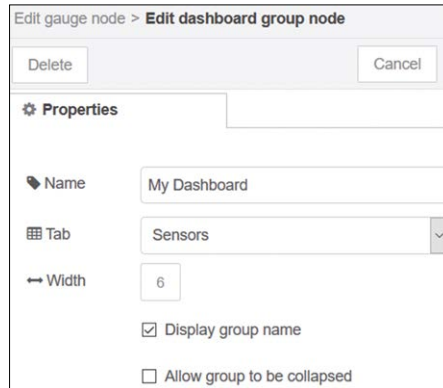

Figure 8.4 Edit the dashboard group name
- Click the **Group** field button to add and configure a dashboard. You should see the dashboard group edit form. Configure it as shown in Figure 8.4. Click **Update**